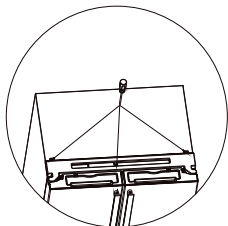

Figure 1
1. Use screw driver to remove the 3 screws, and then remove the upper hinge cover of the left door. See Figure 1.